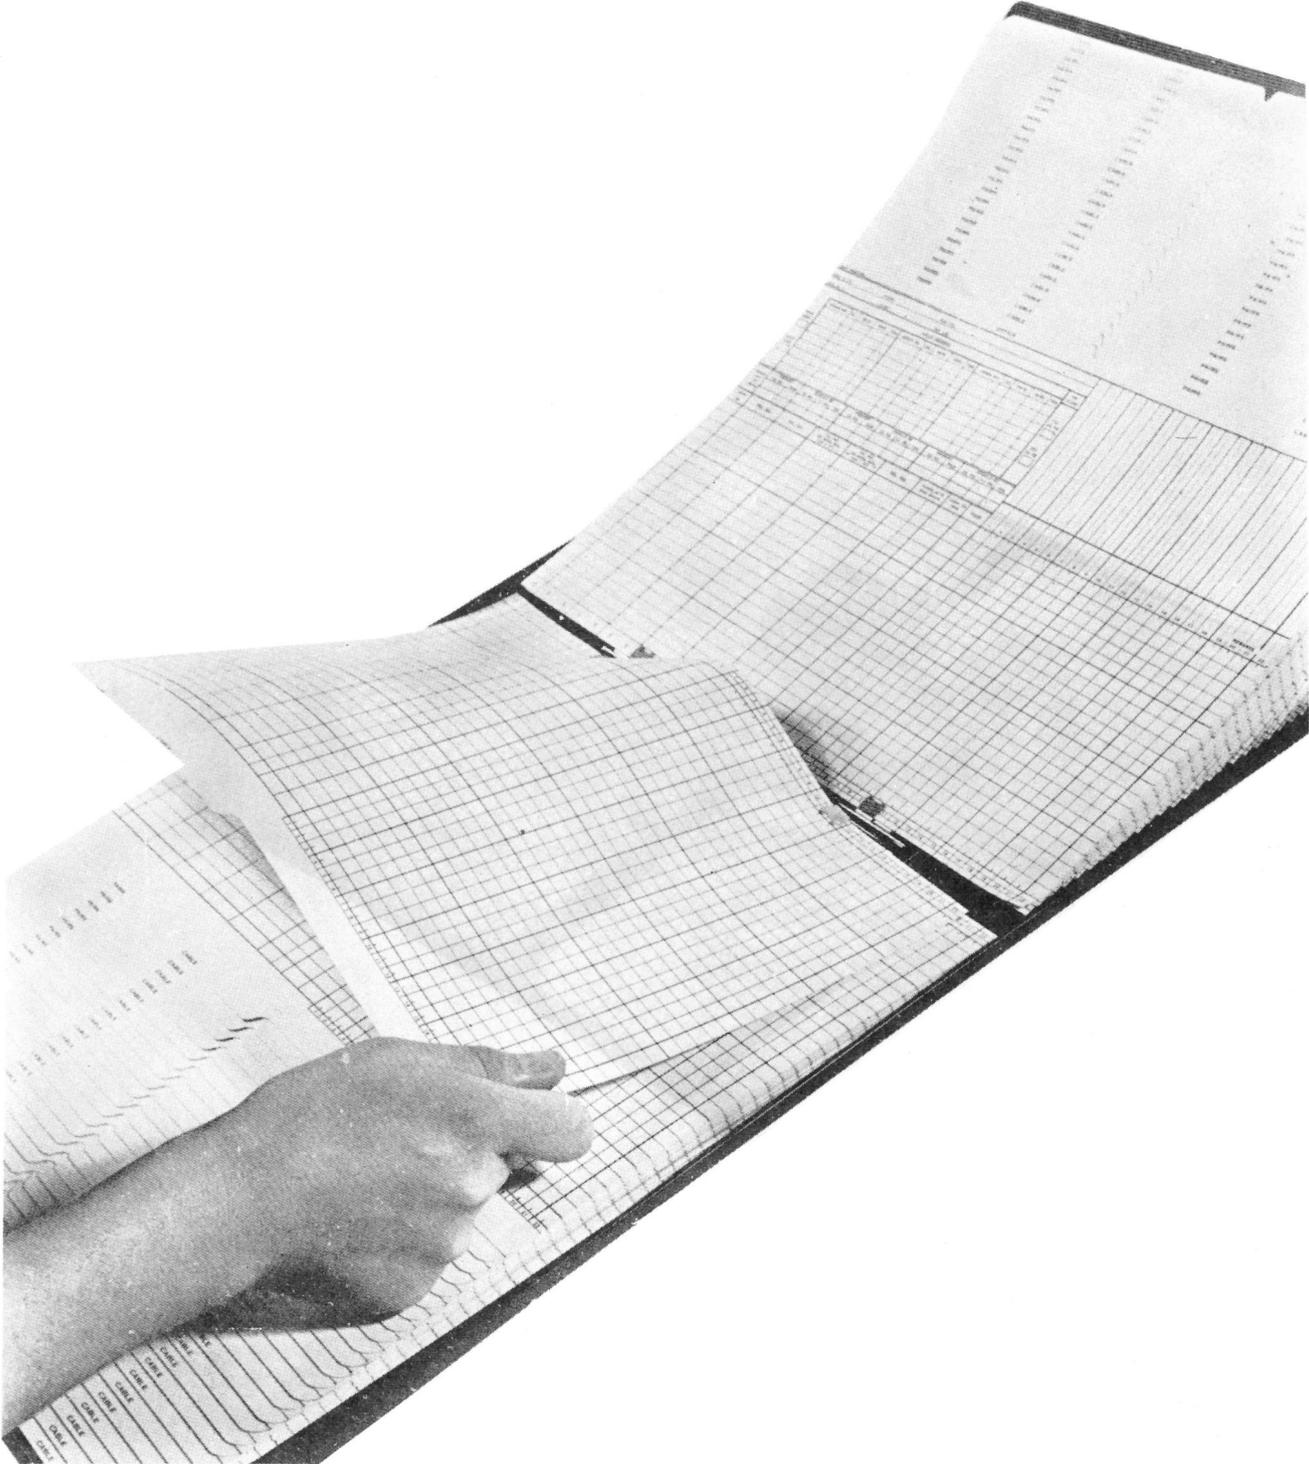

Fig. 38 - Illustrates the Correct Method of Placing and Removing Cards
8.02 When cards are being removed from, or placed on, the wire hangers, care should be exercised to insure that the card stock is not broken at the points where the permanent hinges are affixed. Fig. 38 illustrates the correct method to be used.